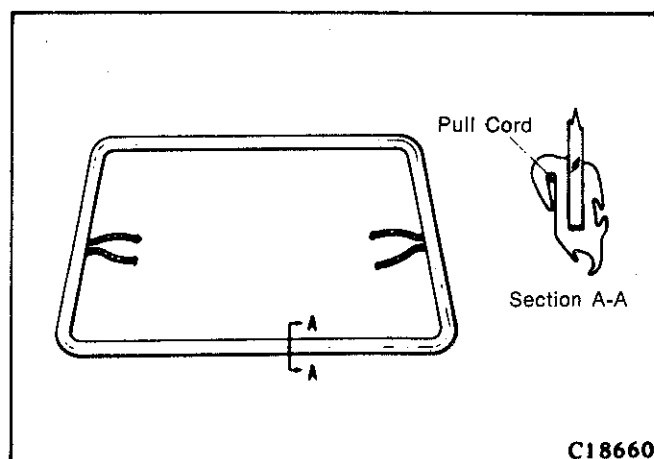

Fig. 23—Installing tail gate glass
(1) If the window or weather strip is to be re-used, ensure all the old sealer is removed, also ensure the body flange is cleaned.
(2) Apply soapy water to the weather strip and install the weather strip to the glass and then install the mouldings to the weather strip.
(3) Using two lengths of strong cord, install the cord into the weather strip body flange rebate with the ends of the cord positioned as shown in Fig. 23.